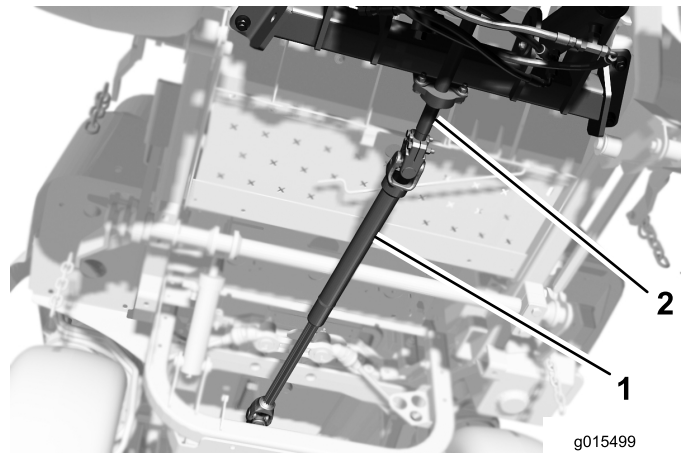

Figure 10
1. While aligning the drive shaft mounting holes with the jack shaft hole, slide the drive shaft onto the attachment jack shaft (Figure 10).